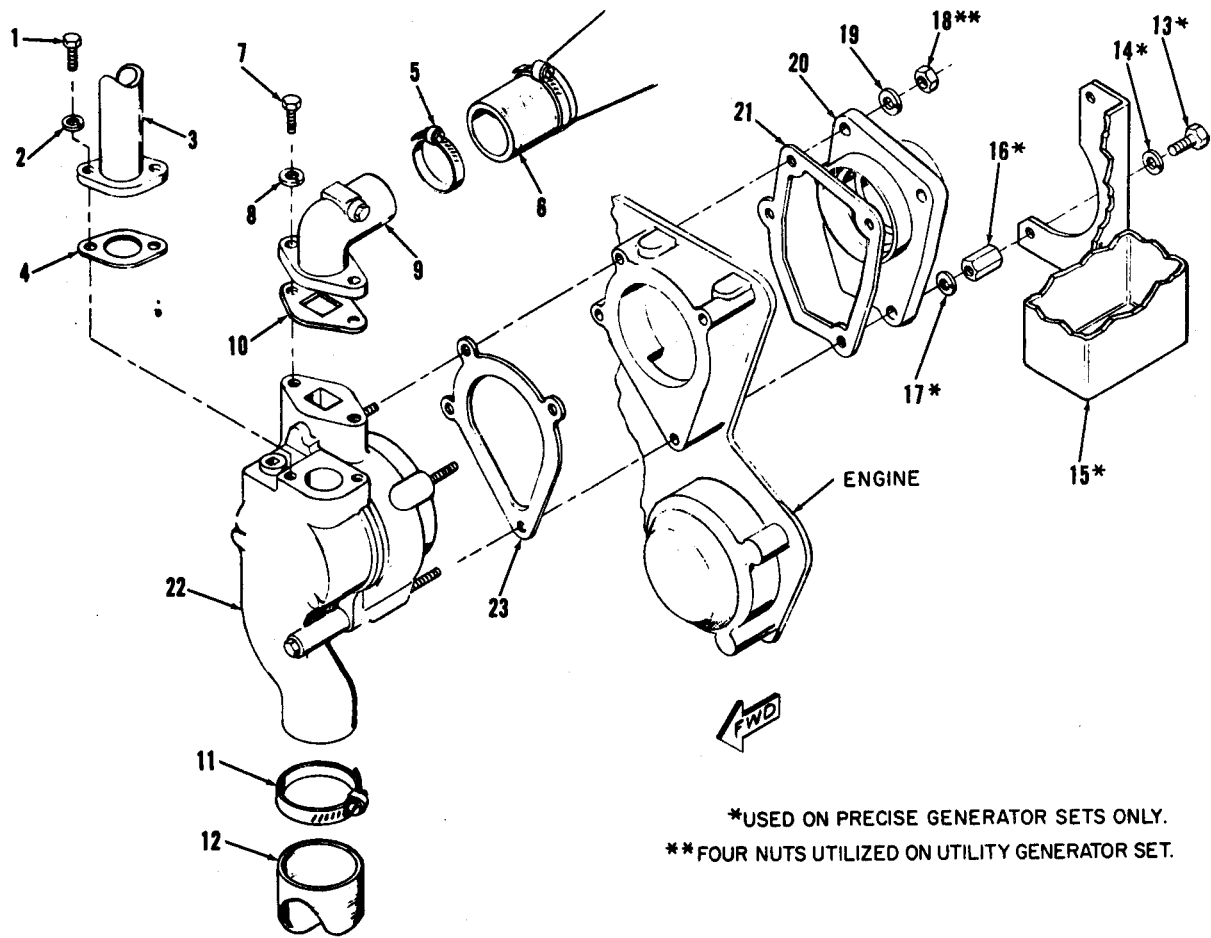

Figure 3-40. Water pump, removal and installation
b. **REMOVAL.** Remove water pump in sequence illustrated in figure 3-40, observing the following:
d. **INSTALLATION.** Install water pump in reverse sequence illustrated in figure 3-40, observing the following:
Legend to figure 3-40: